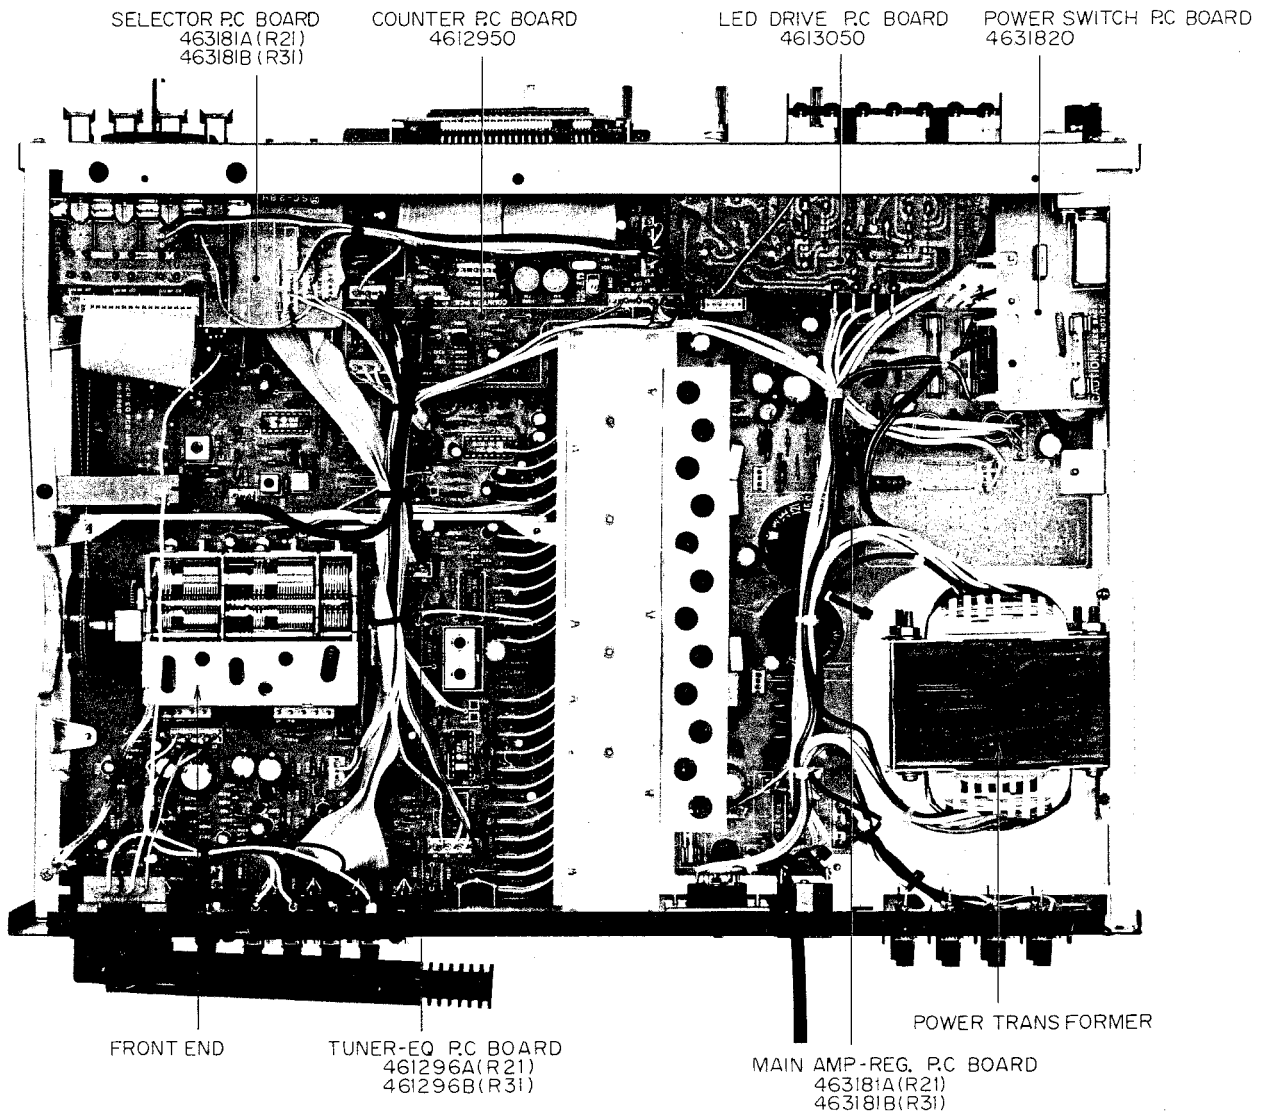
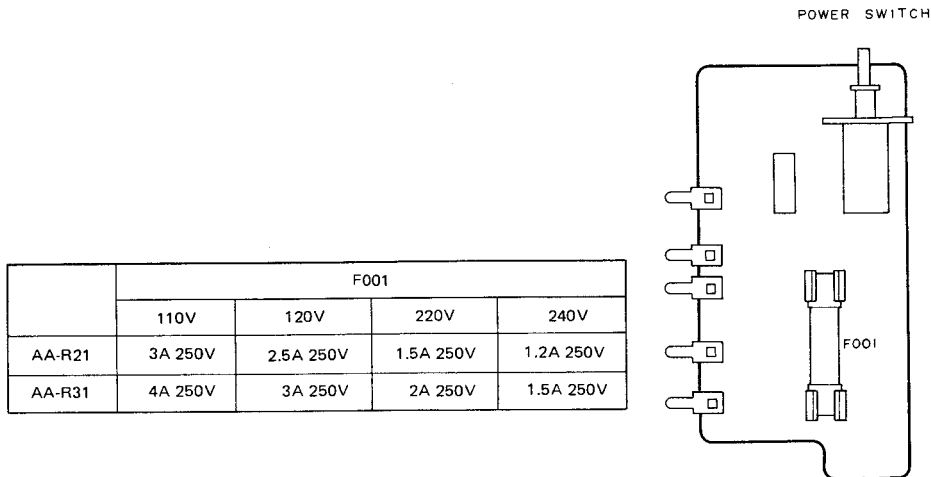

Fig. 5 Top View
Fig. 7 Power Switch P.C Board
5. Change the fuse (F001) located on the Power Switch P.C Board. (Refer to Fig. 5 and Fig. 7)